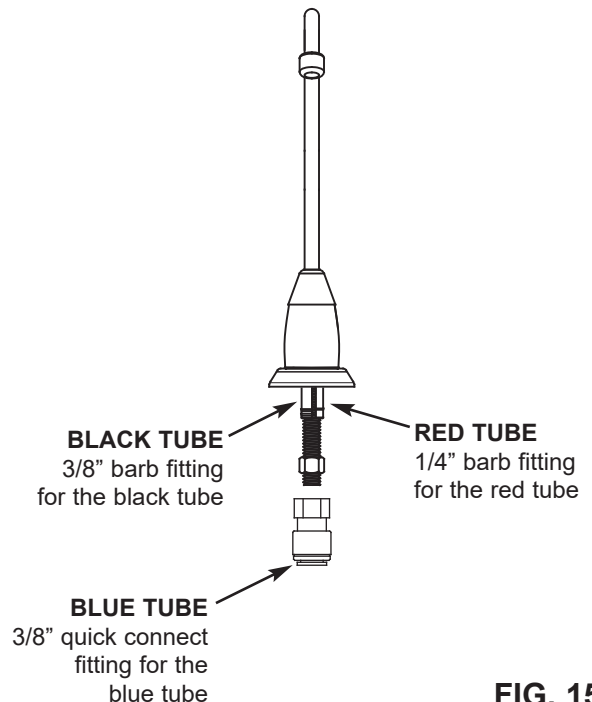

FIG. 15
3. Locate the 3/8" black tubing and push one end onto the 3/8" faucet barb fitting, see Fig. 15.
4. Locate the 1/4" red tubing and push one end onto the 1/4" faucet barb fitting, see Fig. 15.
8. Locate the 3/8" blue tubing and insert one end all the way into the quick connect fitting on the bottom of the faucet stud. See Fig. 15.